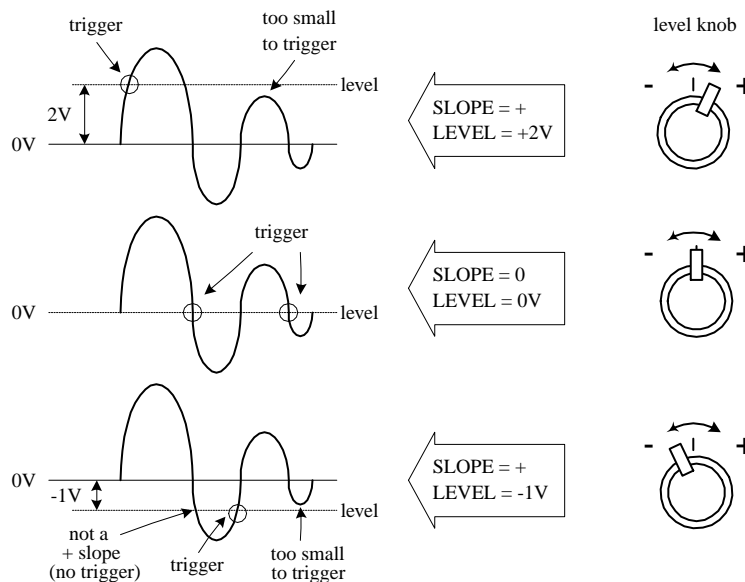

FIGURE 14.31
- NORM.* Used for triggered sweep operation. The triggering threshold is adjustable by means of the triggering LEVEL control. No sweep is generated in the absence of the triggering signal or if the LEVEL control is set in such a way as to allow the threshold to exceed the amplitude of the triggering signal (see Fig. 14.31).
- LEVEL knob.** Used to trigger a sweep. LEVEL sets the point when scope will trigger based on the amplitude of the applied signal. The level can be shifted up or down. The READY/TRIGGER indicator turns on when the sweep is triggered, indicating that the triggering LEVEL control is within the proper range (see Fig. 14.31).